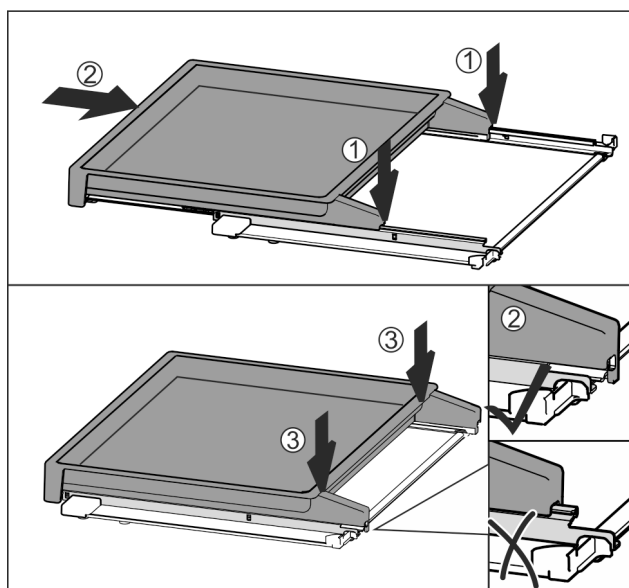

Fig. 113
- Place centrally on the rails Fig. 113 (1).
- Slide the pull-out board all the way in Fig. 113 (2).
- Press down at the back until it clicks into place Fig. 113 (3).